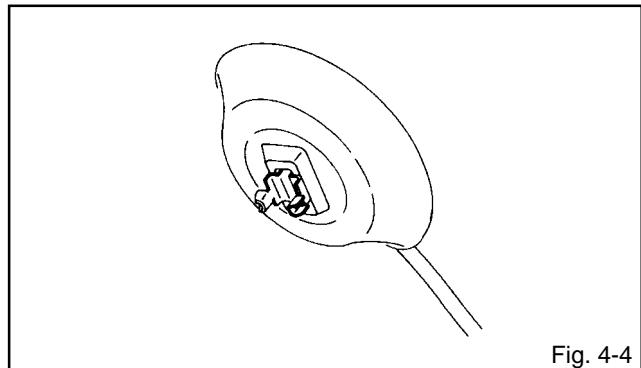

Fig. 4-4
3. Turn over the Rubber Cap. (**Refer to Fig. 4-4.**)